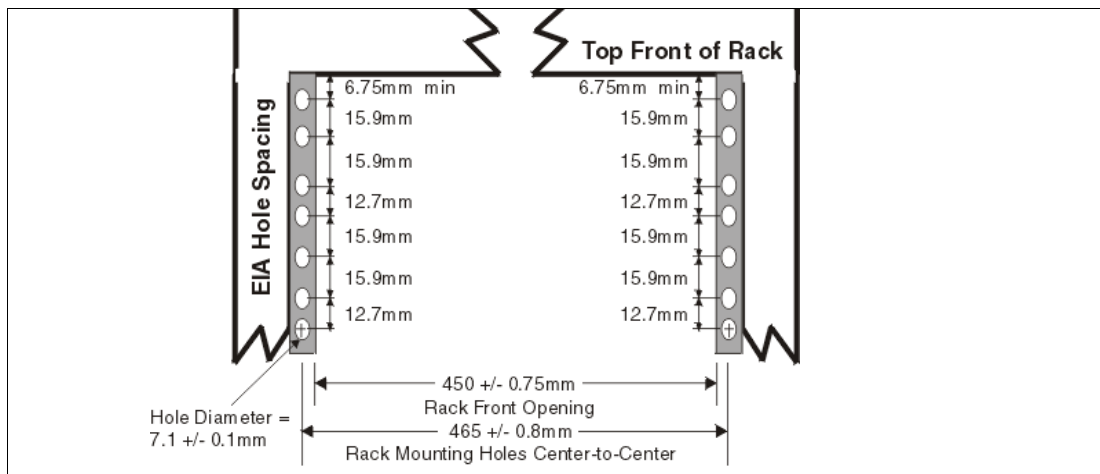
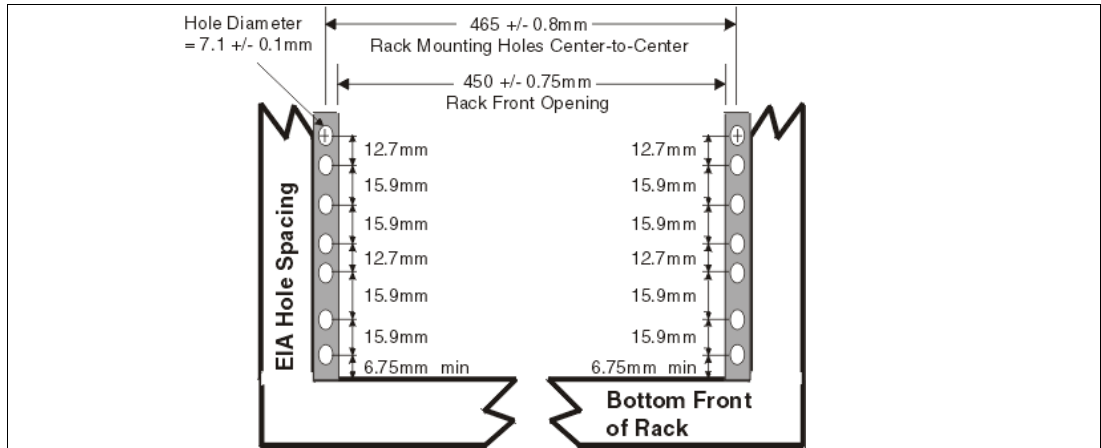

Figure 1-5 Rack specification dimensions, top front view
Figure 1-6 Rack specification dimensions, bottom front view
- ▶ The vertical distance between mounting holes must consist of sets of three holes spaced (from bottom to top) 15.9 mm (0.625 inches), 15.9 mm (0.625 inches), and 12.67 mm (0.5 inches) on center, making each three hole set of vertical hole spacing 44.45 mm (1.75 inches) apart on center. Rail-mounting holes must be 7.1 mm + 0.1 mm (0.28 inches + 0.004 inches) in diameter. See Figure 1-5 and Figure 1-6 for top and bottom front specification dimensions.